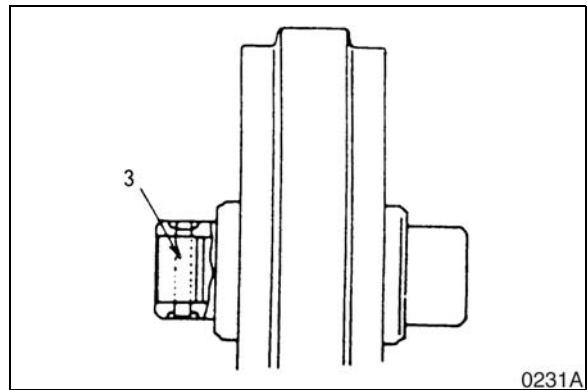

Figure 26
5. Install idler (7, Figure 26) on the axle.
6. Install bearing (1, Figure 26) and pin (3) to the axle.